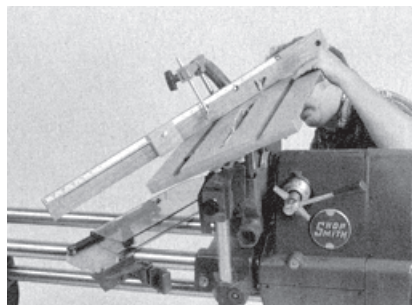

Fig. 2
3. Set saw table at 21-degrees, and miter gauge at 49-degrees. Use 1/4" x 1-1/2" carriage bolts with wing nuts to mount jig to miter gauge. The jig enables you to make the frame quickly and accurately (see Fig. 2).